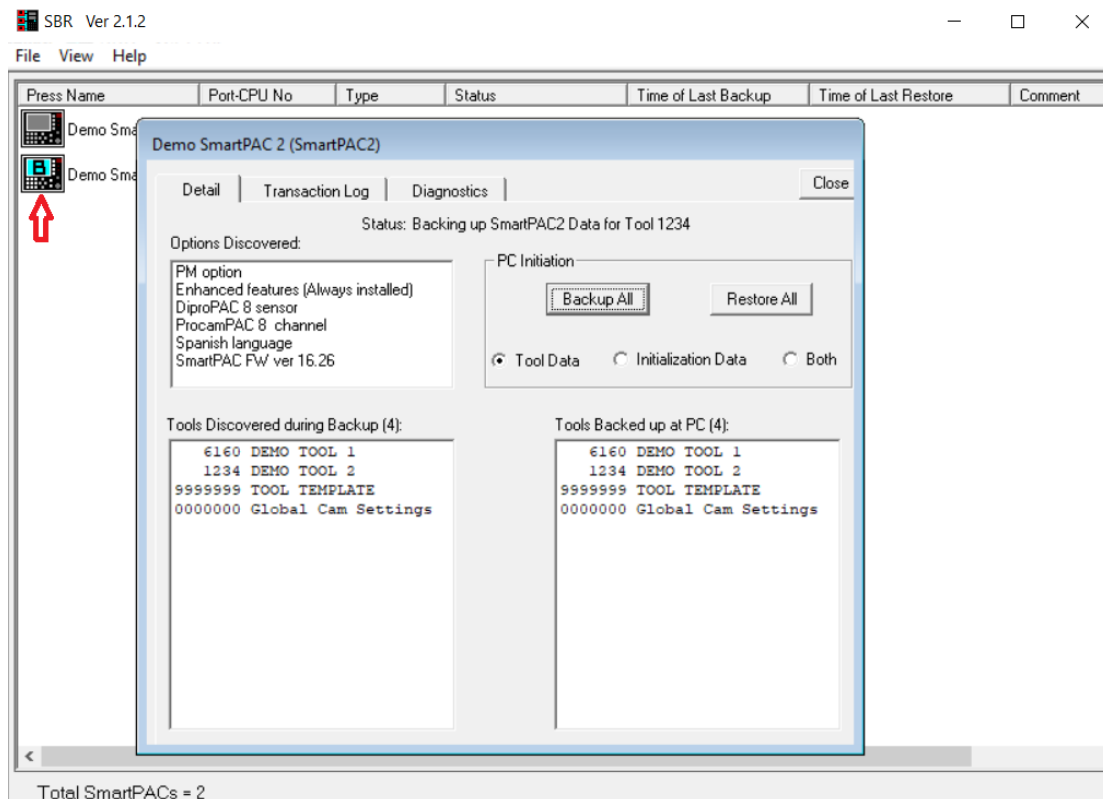

Figure 1 – Tool Data Backup
1. Using SBR, click the Tool Data radio button, then click the Backup All button to start the backup. If the backup has successfully started, the SmartPAC 1 or 2 Icon will have a B with a blue background like the example in Figure 1 below